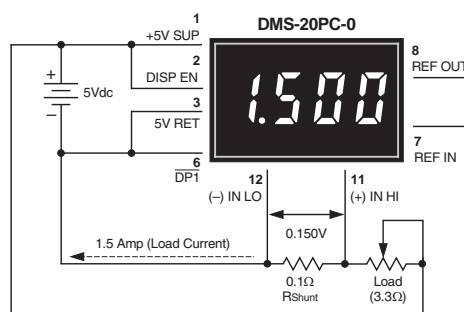

Figure 9. DC Ammeter Circuit
- 7. Digital Ammeter:** Digital ammeters are finding ever-increasing usage because analog-style ammeters (moving-vane types) now cost roughly the same as their digital counterparts. Additionally, analog ammeters are not nearly as rugged as modern digital panel voltmeters. Figure 9 illustrates a typical ammeter application. The circuit uses a  $\pm 200$ mV input meter — the preferred range for most ammeters — to measure the voltage developed across a 0.1Ω current shunt. The circuit shown represents a basic ammeter connection diagram. A detailed application note describing digital dc ammeters is included in DATEL's new Digital Panel Meter Databook.